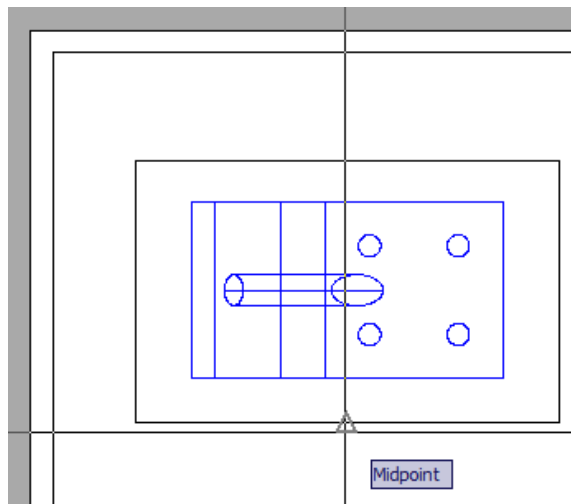

Figure Step 10A
Step 10 Enter the SOLVIEW command again, but this time create the front view by projecting orthographically from the top view. Name it: Front. When done that way, the two views will be aligned. (Figure Step 10A and 10B)